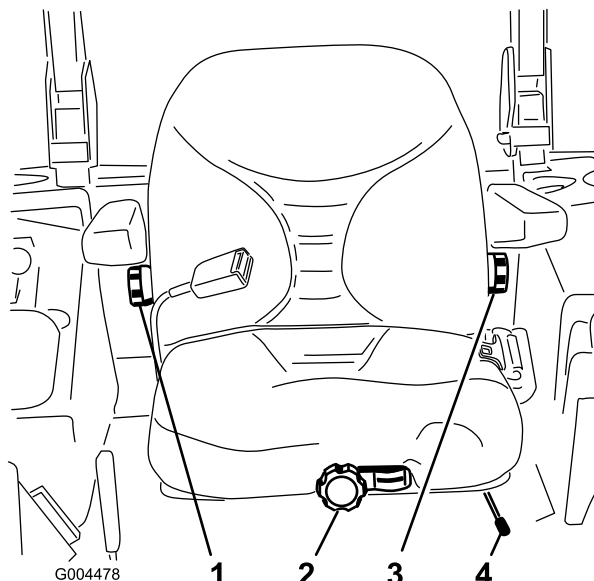

Figure 31
1. To adjust, move the lever sideways to unlock the seat (Figure 31).
Without sitting on the seat, turn the knob in front either direction to provide the best comfort (Figure 31).
To adjust it, turn the knob, under the right-side arm rest, in either direction to provide the best comfort (Figure 31).
To adjust it, turn the knob, under the left-side arm rest, in either direction to provide the best comfort (Figure 31).